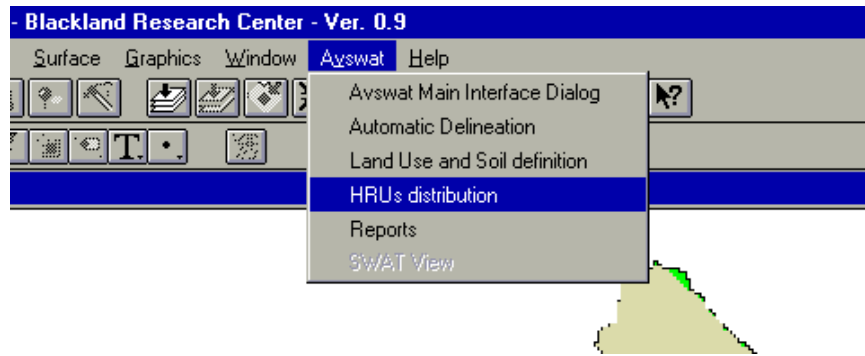

Figure 15.35
1. Select **HRU distribution** from the **Avswat** menu (Figure 15.35).